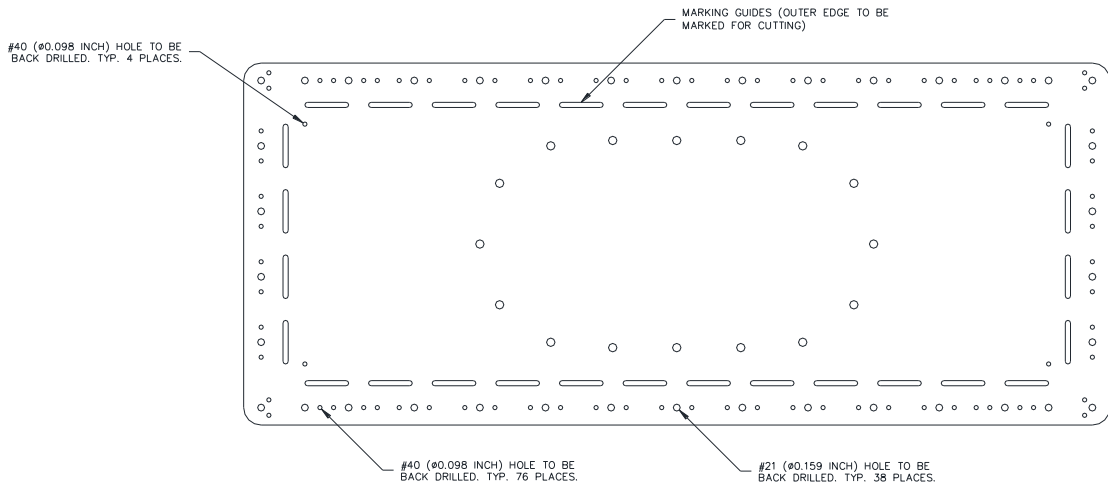

Figure 2: Drill-off template detail.
4. Using the same screws for securing the existing access panel, secure drill-off template (P/N GA8-945321-021) to the belly in place of the existing access panel. Refer to Figure 2.